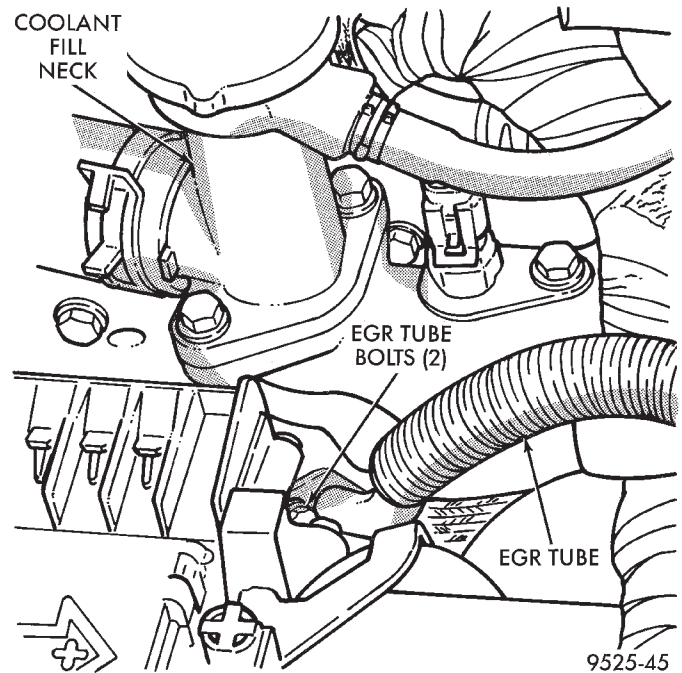

Fig. 13 EGR Tube at EGR Valve
- (2) Remove EGR tube to EGR valve screws (Fig. 13).
- (3) Remove EGR tube. Clean gasket surface on the EGR valve. Wipe clean the grommet on the intake manifold.